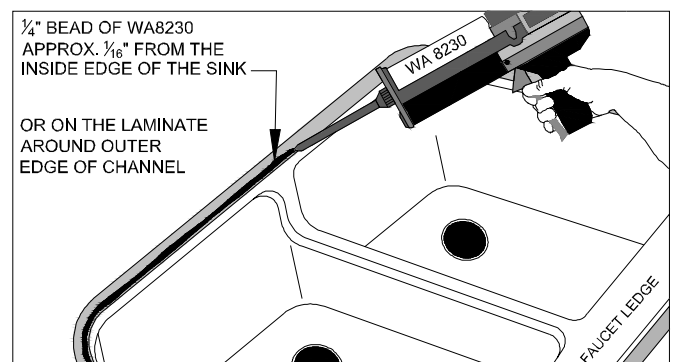

Figure 11C
- Apply the WA8230 - LS Sink Seam Adhesive to the HD sink flange. (FIG. 11C)